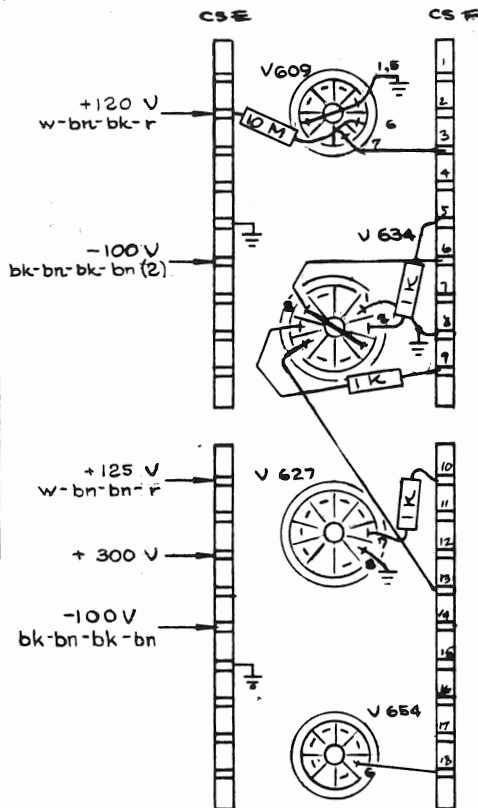

Fig. 1
- ( ) 1. Locate the ceramic strips, CSE and CSF, which are supporting the components associated with the -100v supply (see Fig.1). Also, note the slot numbering arrangement (i.e., CSE-1 indicates ceramic strip "E" and the first notch).
NOTE: Fig.1 shows the completed modification.
NOTE: Refer to Fig.1 while performing steps 4 through 19.